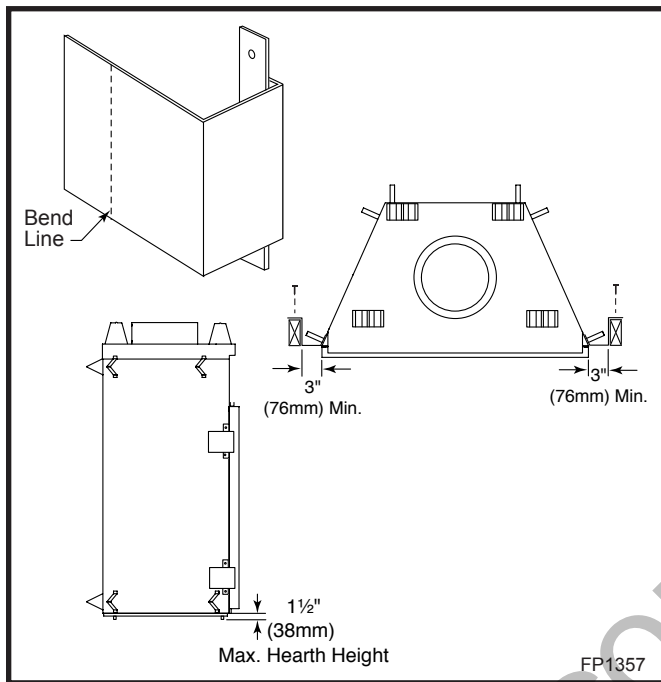

Fig. 5 Nailing flanges.
A hearth is not mandatory but is recommended for aesthetic purposes. We recommend a noncombustible hearth which projects out 12" (305 mm) or more from the front of the fireplace. The hearth cannot exceed 1½" (38mm) in height from bottom of fireplace for ease of door accessibility. (Fig. 5)
2. The unit is shipped with four (4) nailing flanges mounted to the sides near the front corners. (Fig. 5)
4. Attach the fireplace nailing flanges to the frame as shown in Figure 5.